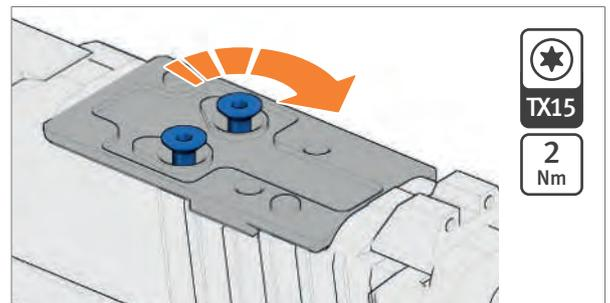

Fig. 39: Tighten screws
5. Tighten screws until the torque is reached (Fig. 39).